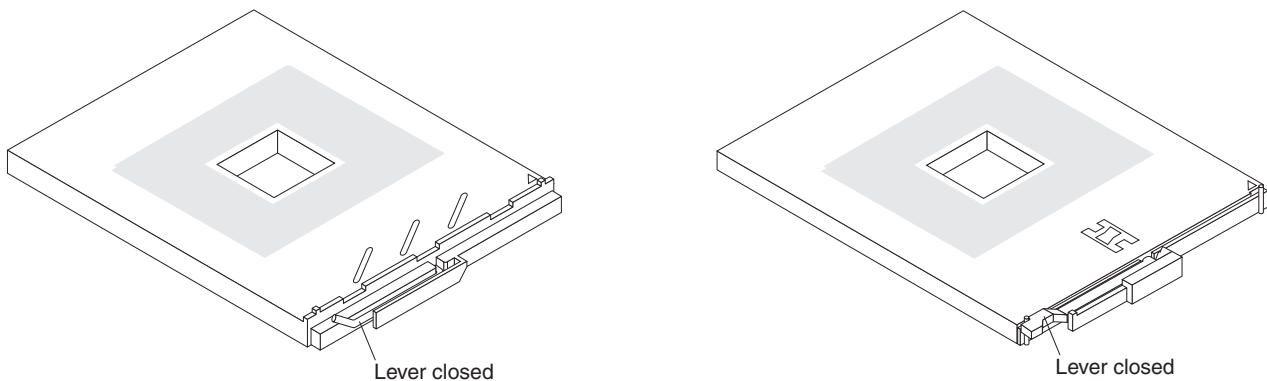
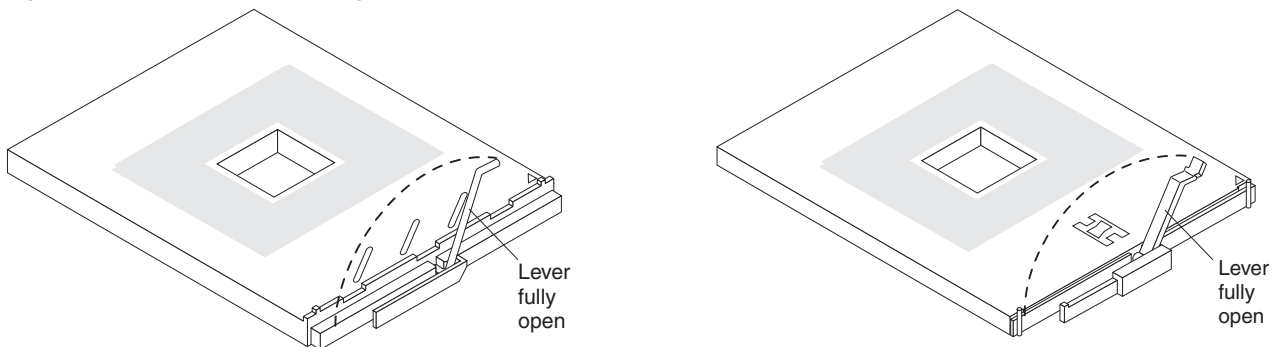

Figure 30. Microprocessor locking lever in the closed position
Figure 31. Microprocessor locking lever in the fully open position
7. Rotate the locking lever on the microprocessor socket from its closed and locked position (Figure 30) until it stops or clicks in the fully open position (approximately 135° angle), as shown in Figure 31.